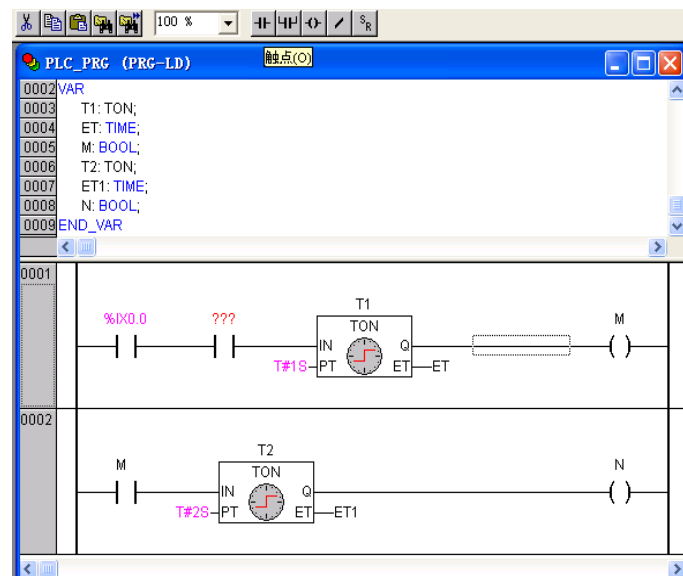

Figure 3-6-11 Programming Step (11)
- In order to achieve the regular on/off switch, a switch “N” shall be added before “T1”. Select “T1”, click the “Contact” button on the tool bar or right click to select “Contact”, as shown in figure 3-6-11.